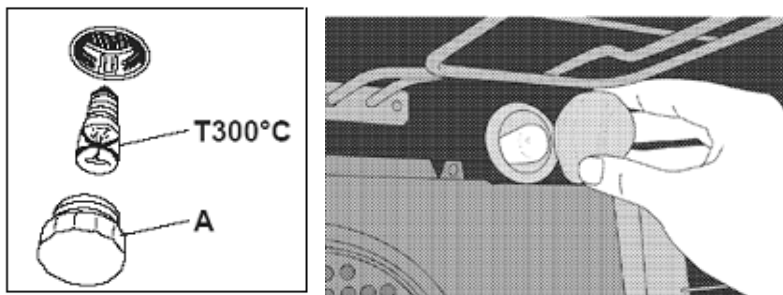

Figure 15
- ❖ To replace the lamp, proceed as follows (**See Figure 15**) ;
1. Glass on the outer casing (A) remove the counter-clockwise,